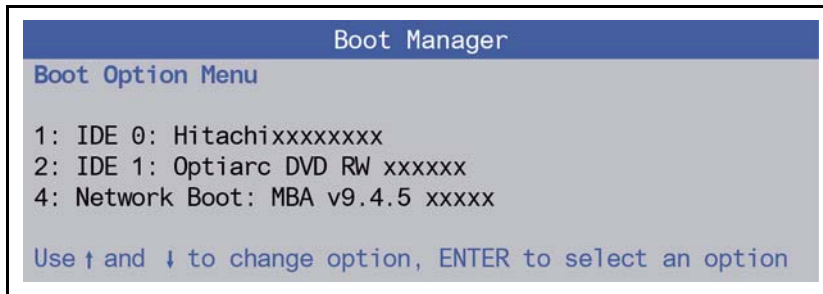

Figure 2-24. Boot Manager Dialog
2. When prompted, press **F12** during POST procedure. The *Boot Manager* dialog is shown. (Figure 2-24)